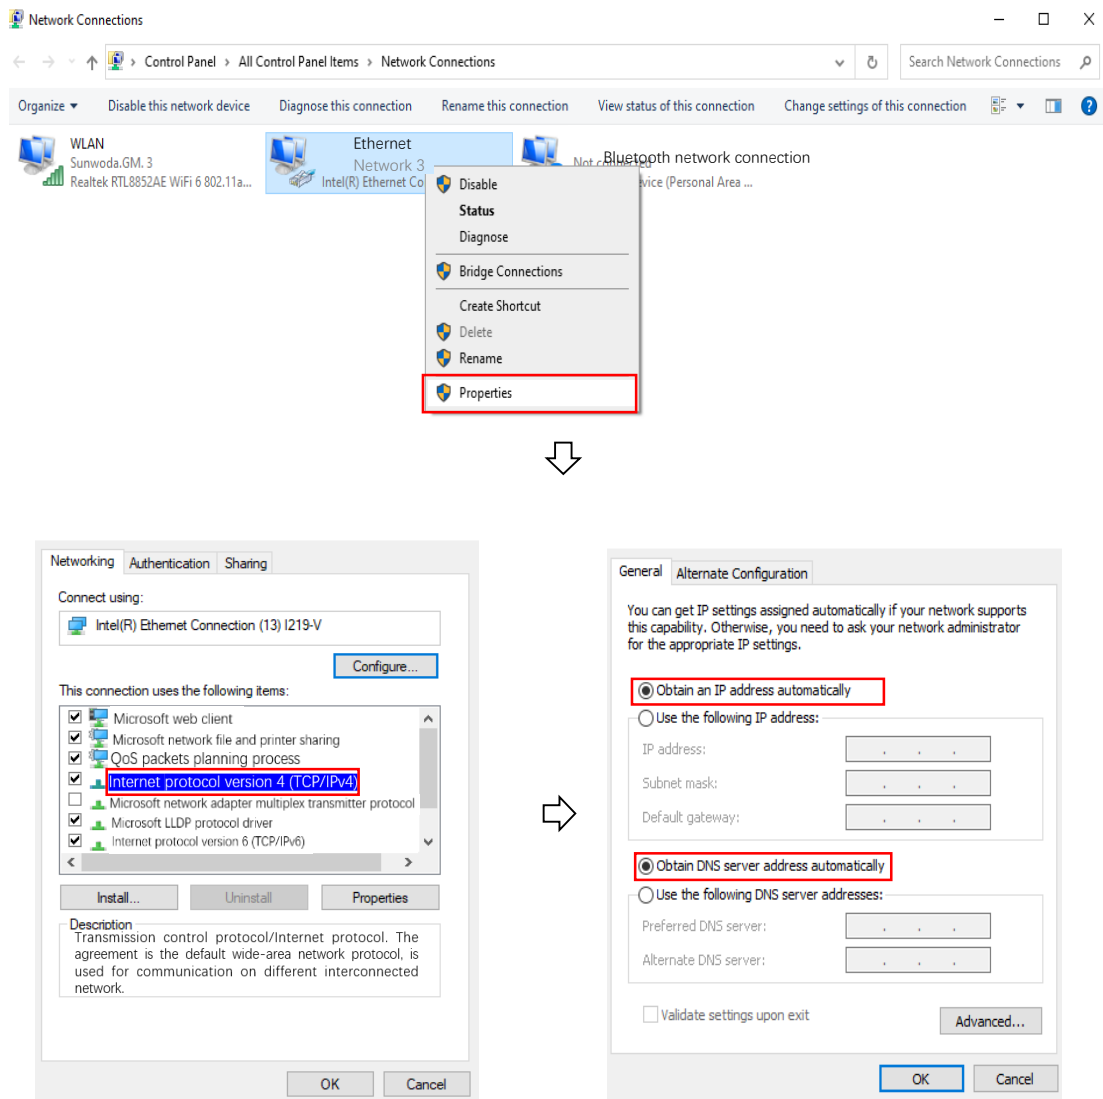

Figure.4.7
(1) Change the IP of your computer PC to be obtained automatically by following the steps below (Fig4.7).